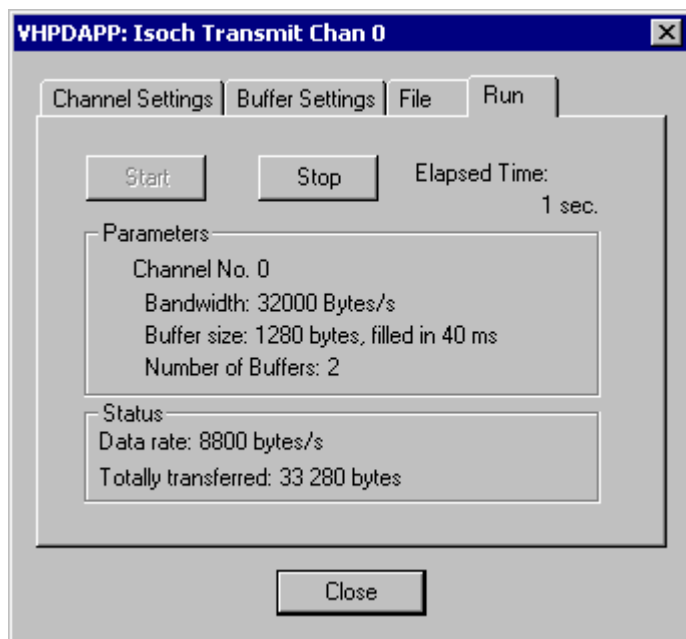

Figure 31: Isochronous transmit to the receiver (VHPD demo)
- Click on Start (see Figure 31)
- Now, VHPD demo transmits data and the number of received packets displayed in the terminal window is increasing (see Figure 31).